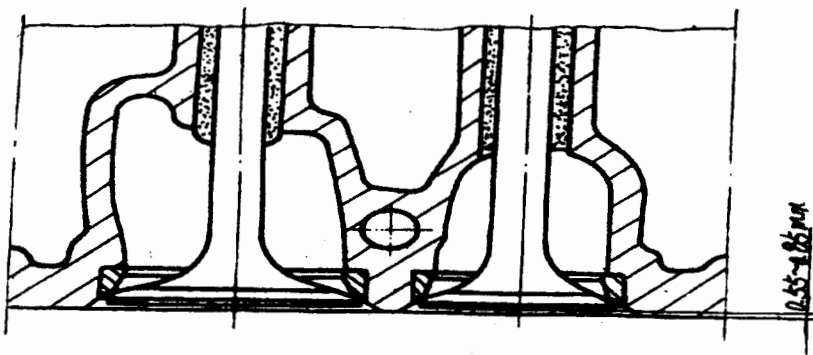

Fig2-2 Depth of valve surface below the surface of cylinder head
- ① The width of the seating line is over 2.5mm;
- ② The valve is 1.5mm more below the surface of the cylinder head as shown in fig. 2-2 (For a new engine, it should be 0.55~0.85mm).